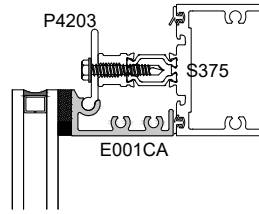

Fig. 49.2
- STEP 3: Attach head anchor P4203 to back member support framing intermediate as shown at Fig. 49.2.